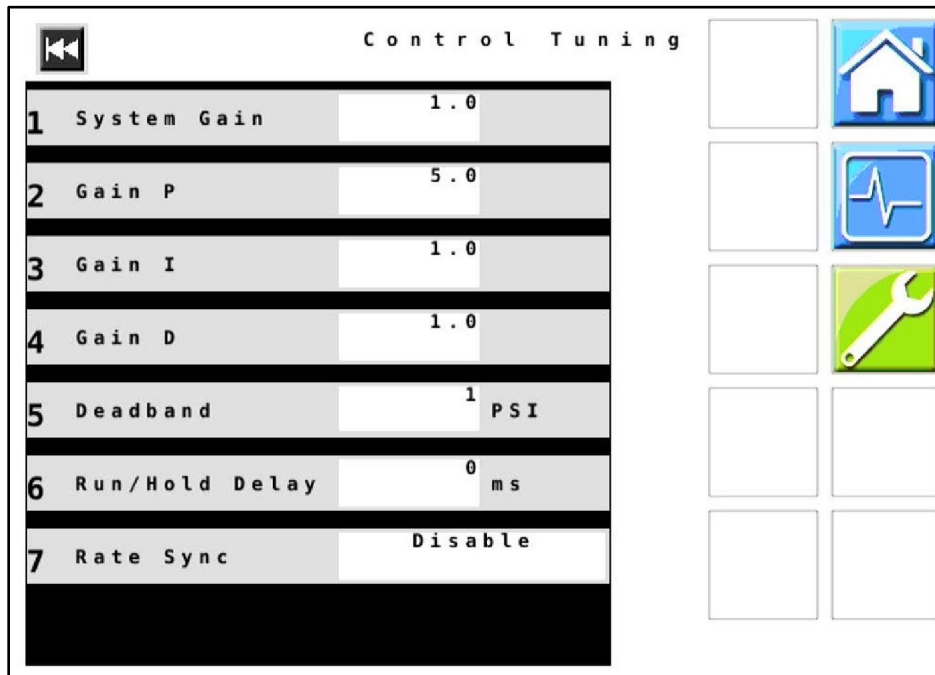

Figure 15 — Control Tuning
27. **Figure 15:** Verify that all values displayed on your unit match those shown here. Change values if necessary.